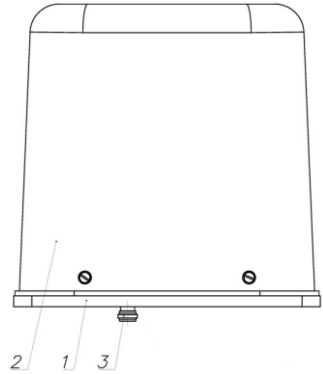

Fig. 1
- 5.1. The antenna “AL1/160” is the non-symmetrical quarter-wavelength folded monopole with the capacitive load structurally contained the base 1, the protective radio-transparent radome 2 and the flange female connector 3 (Fig. 1). The geometric shortening of the antenna is achieved using the additional linear radiating element with distributed capacity and the additional radiating cylinder.